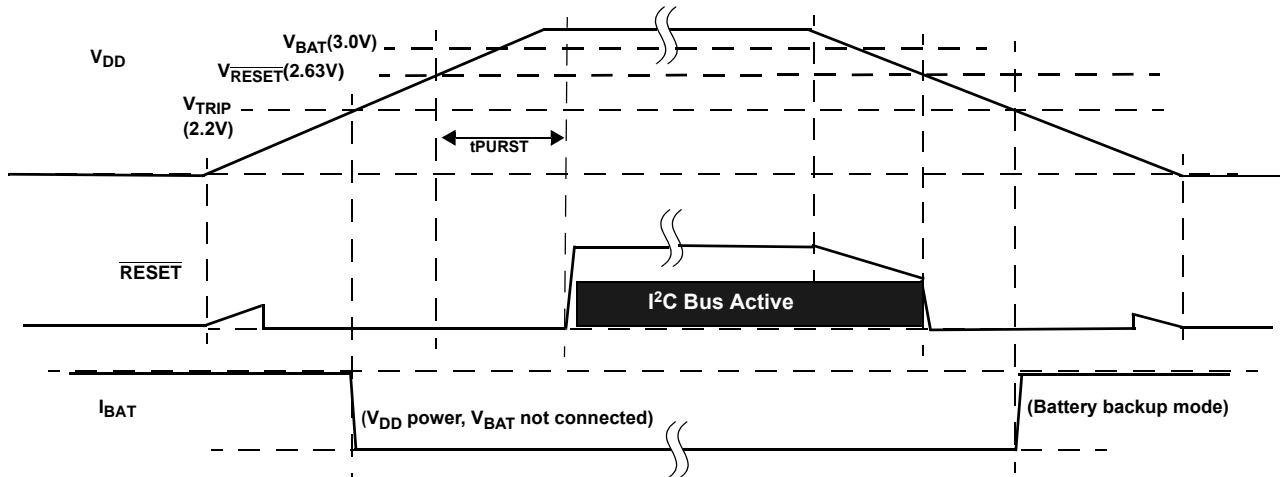

FIGURE 29. EXAMPLE RESET OPERATION IN MODE A OR C
- Mode A - In this mode selection bits indicate a low V_{DD} switchover combined with I²C operation in battery backup mode. In actuality the V_{DD} will go below V_{RESET} before switching to battery backup, which will disable I²C ANYTIME the device goes into battery backup mode. Regardless of the battery voltage, the I²C will work down to the V_{RESET} voltage. (See Figure 29)
- Mode C - In this mode the selection bits indicate a low V_{DD} switchover combined with no communications in battery backup. Operation is actually identical to Mode A with I²C communications down to V_{DD} = V_{RESET}, then no communications. (see Figure 29)